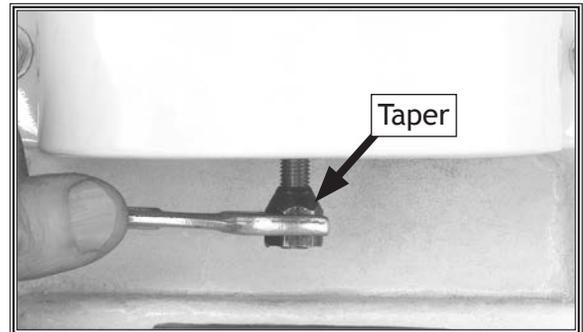

Figure 14. Threading on drawbar nut with the tapered end up.
16. Using 14mm open-end wrench on drawbar nut, (Figure 14), make sure drawbar nut is tight, but DO NOT over-tighten drawbar nut.